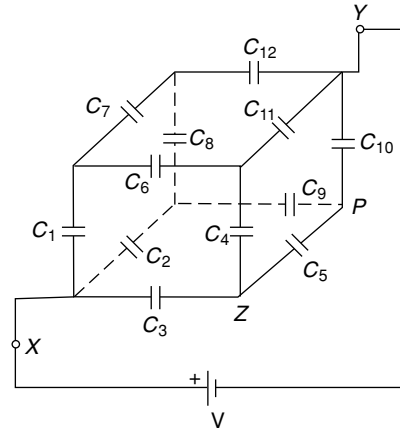

Fig. 1.48 Cube of Ex. 1.45
1.45 In Fig. 1.48, if $C_1 = C_2 = C_3 = C_4 = \dots = C_{12} = 1 \text{ F}$, and $V = 10 \text{ V}$, find the charge supplied by the battery. If the charging current drawn from the battery is 10 A , how much time would the battery take to charge the capacitor cube? What is the energy stored in the capacitances of the cube?